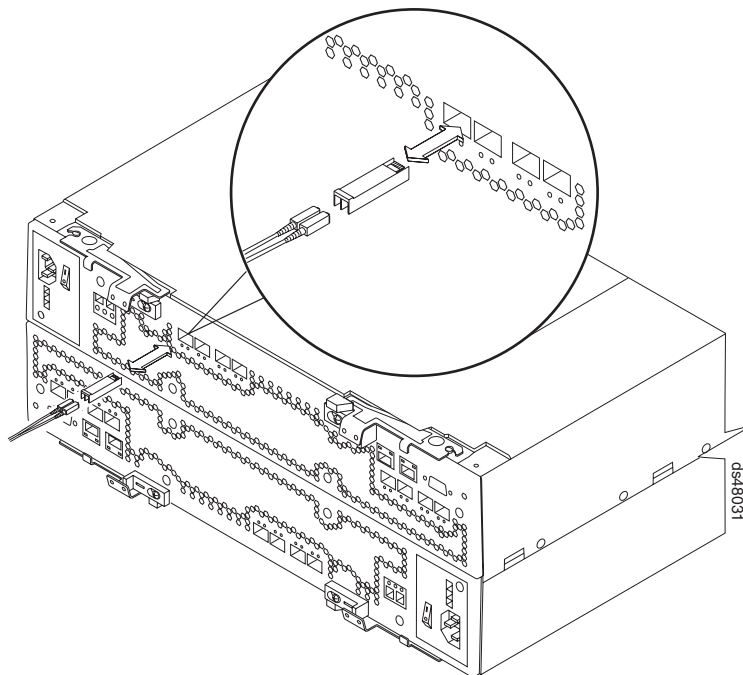

Figure 26. Replacing an SFP module
4. Insert the SFP module into the fibre channel port until it clicks into place. See Figure 26.
**Note:** The alignment of the fibre channel ports on controller A are opposite those of controller B. Before inserting an SFP module into a port, verify that the SFP module is rotated correctly to match the alignment of the port on the RAID controller. Do not force-fit. For fibre channel ports in controller A, SFPs should be inserted with the exposed printed circuit facing up (as shown in Figure 26). For fibre channel ports in controller B, SFPs should be inserted with the exposed printed circuit facing down.